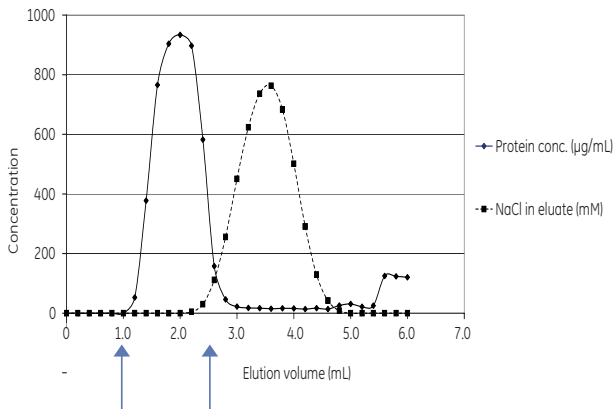

Fig 2. Removal of NaCl from albumin solution with PD MidiTrap G-25. The albumin is eluted in volume fractions between 1.0 to 2.5 mL (indicated by arrows).
- Elute with 1.5 mL buffer and collect the eluate. A typical elution profile is shown in Fig 2
The following experiment is included as an example of a desalting experiment using the gravity protocol. A PD MidiTrap G-25 column was equilibrated with MilliQ™ water. 1 mL of bovine serum albumin 1 mg/mL in 1M NaCl was applied onto the column. The protein recovery was 95% and the desalting capacity was above 98%, see Fig 2.